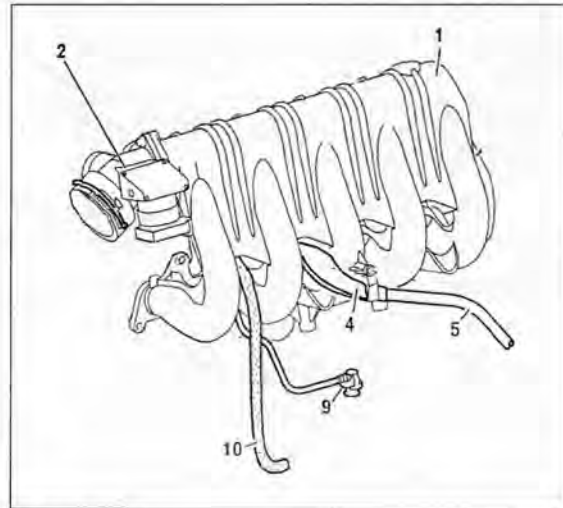
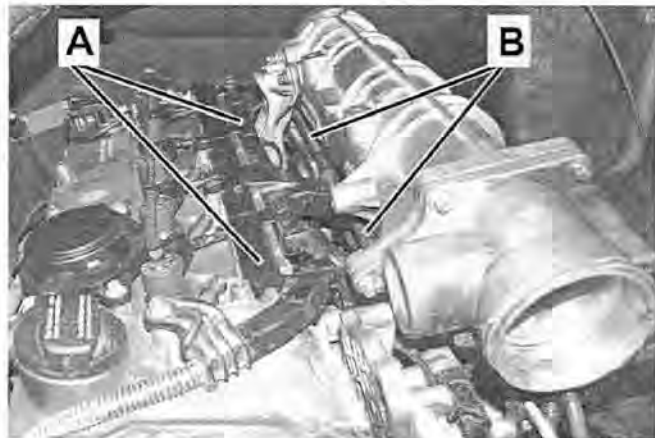

Figure 24
Figure 25
- Route fuel line (9, Figure 24), fuel hose (10, Figure 24), engine harness (5, Figure 24), and harness duct/cover (4, Figure 24) through manifold runners as shown.
- Harness duct/cover assembly (A, Figure 25 and 4, Figure 24) should be routed **below** plastic fuel line (B).
- **Be careful not to break harness duct/cover** (4, Figure 24) when routing through intake manifold runners.